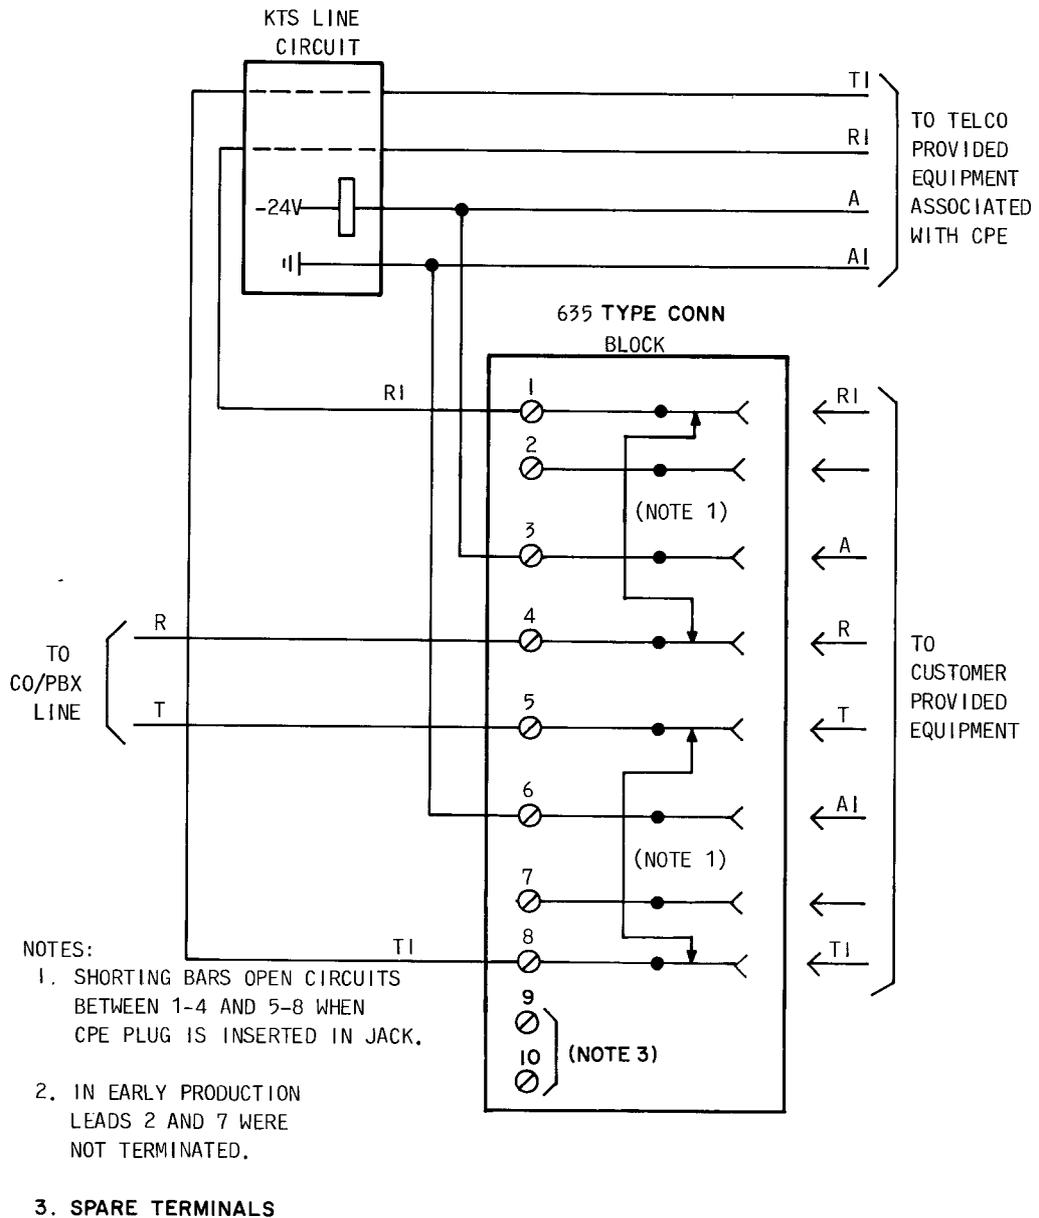

Fig. 6—Connections for USOC RJ33X
**2.04 USOC RJ33X:** Provides a series connection of the tip and ring of a KTS line ahead of the line circuit because the registered equipment requires CO/PBX ringing and a bridged connection of **A** and **A1** from behind the line circuit. It provides the busy feature at other stations in the same KTS. (Fig. 6). Tip and ring are the only leads opened when the CPE plug is inserted in the 635-type connecting block. Typical usage would be for customer-provided automatic dialers or call restrictors. Access to the required leads can be anywhere leads are available, but tip and ring must be ahead of the line circuit.